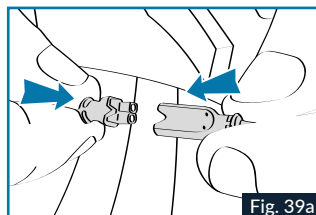
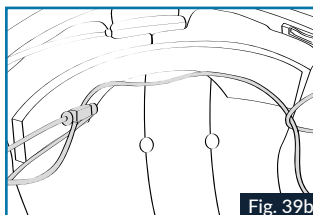

Fig. 39a
Fig. 39b
11. Make the connections to the speakers (black 2-branch connector), and the keyboard as shown in Fig. 39a, then pass the right speaker cable as shown in Fig. 39b.